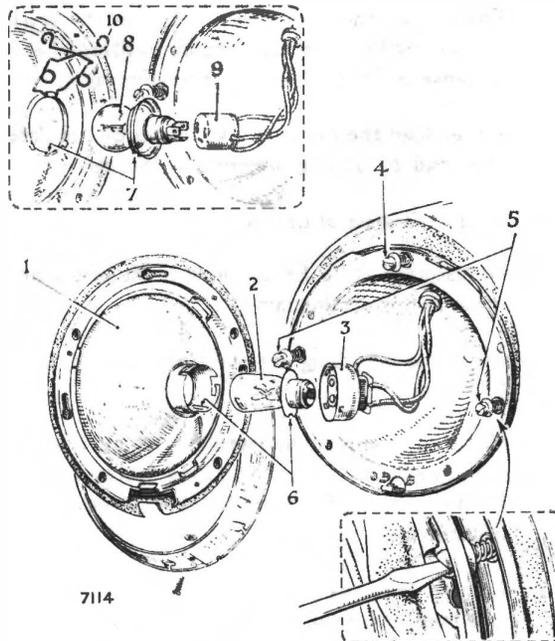

Fig. 24 Headlamp Assembly (Early Models)
Adjustment of Setting (Refer to Fig. 24)
To remove glass and reflector assembly (Refer to Fig. 24)
To renew bulbs (Refer to Fig. 24)
- KEY TO FIG. 24